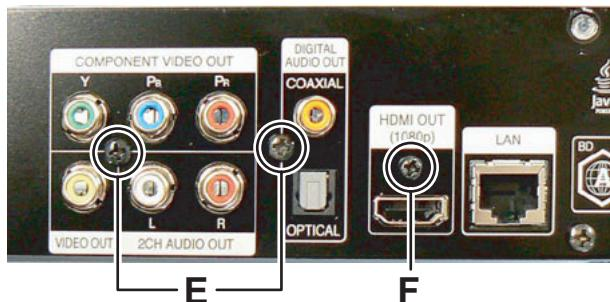

Fig.8
#### 3.4 Removing the Main board (See Fig.8, 9)
- (1) Remove the two screws **E** attaching the RCA jacks. (See Fig.8)
- (2) Remove the one screw **F** attaching the HDMI jack. (See Fig.8)